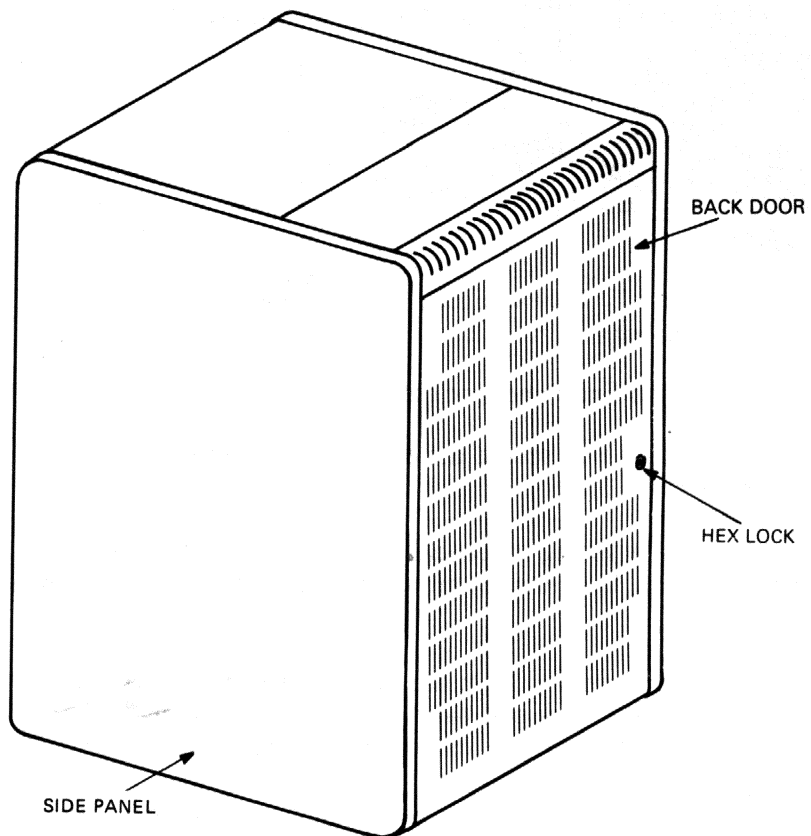

Figure 2-4 Opening the Back Door
1. Open the back door on the cabinet with the side panels by turning the hex lock counterclockwise. Refer to Figure 2-4.